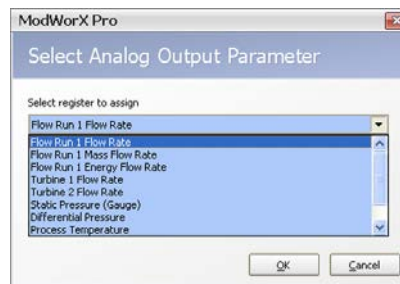

Figure 7.25
2. Click **Select** to choose a parameter from the Select Analog Output Parameter dialog (Figure 7.25).